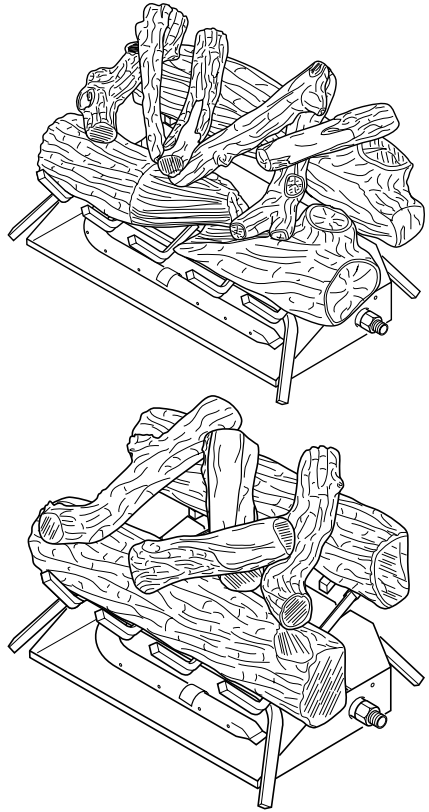

Figure 17 - Placement of Top Logs (Number and style may vary)
5. Place smaller top logs onto bottom logs (see Figure 17). Leave as much open space between logs as possible to minimize flame impingement and sooting.